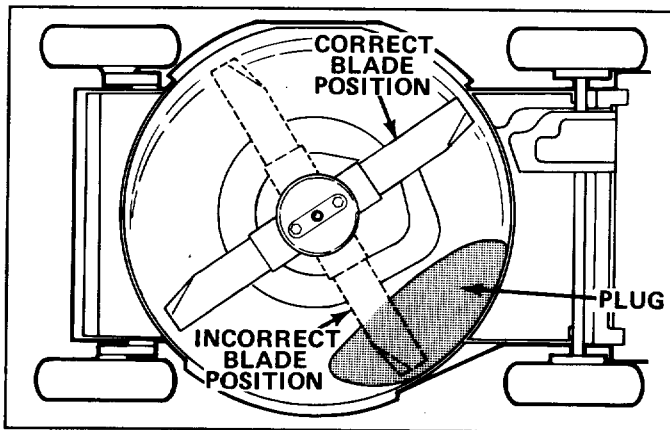

Figure 2
7. Using a rag or wearing gloves, rotate blade slowly by hand to a position where blade will not interfere with plug installation (Fig. 2).
2. Open discharge door and look down discharge tunnel to see if blade will interfere with plug installation. If blade is rotated near discharge tunnel opening, pull wire off spark plug and turn mower on side, with air cleaner up. Using a rag or wearing a glove, rotate blade slowly by hand to a position away from discharge tunnel opening (Fig. 2). Turn mower upright and reconnect spark plug.